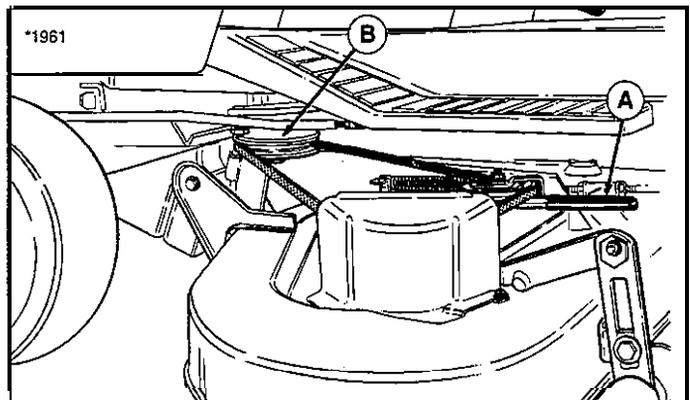

Figure 8. Removing & Installing Belt
5. Remove belt from PTO pulley (B, Figure 8).